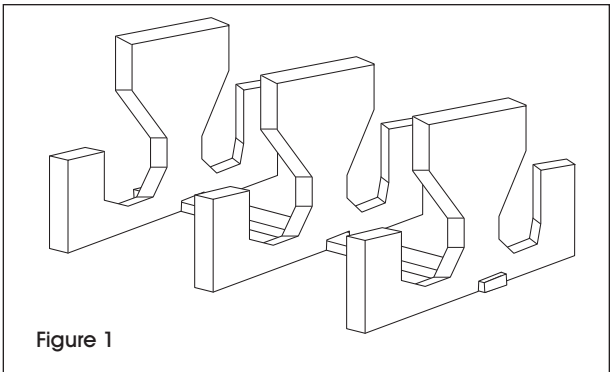

Figure 1
2. Place the three plastic bases on a flat level surface using the base support board to keep them straight. You will attach this board in step 7. (See Figure 1)